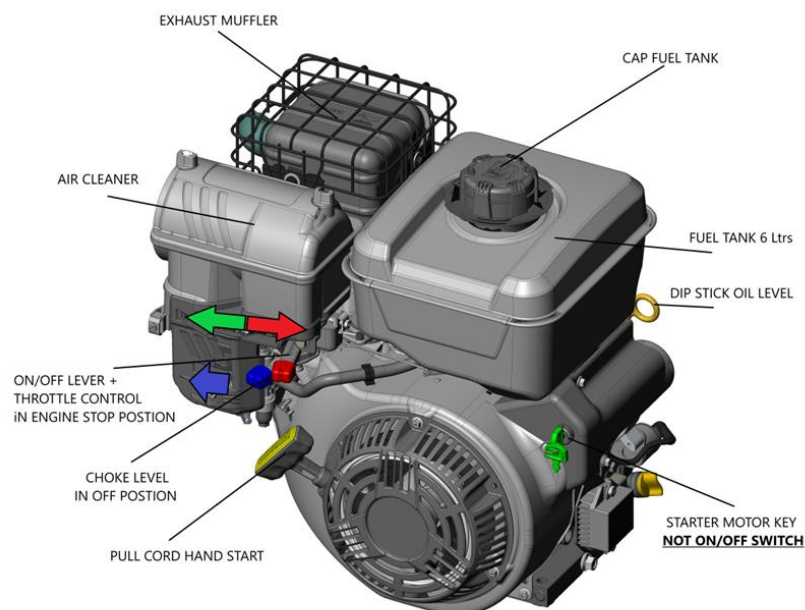

Figure 4: Engine Parts and Controls
- Always position the machine on a level firm surface for loading and ensure the loading area is clear from slips and trips. When crushing the engine speed must be set to maximum by pulling the throttle level all the way to the LH side of the engine as shown in Figure 4.